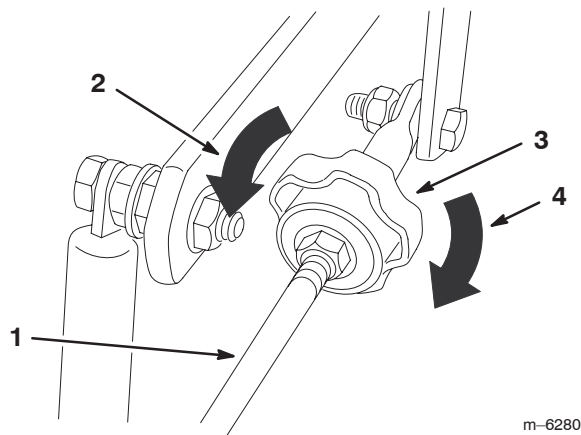

Figure 59
4. To make the machine go right, turn the knob towards the rightside of the machine. Refer to figure 59.
5. To make the machine go left, turn the knob towards the leftside of the machine. Refer to figure 59.